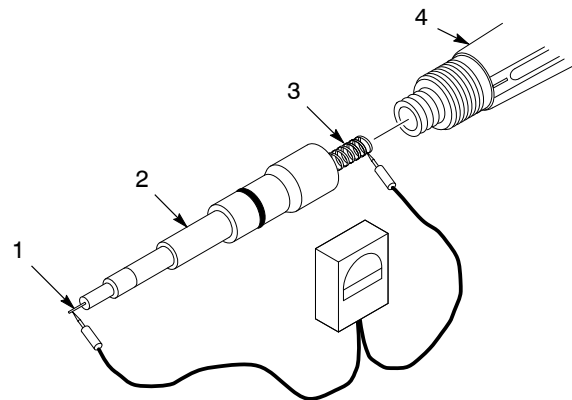

Figure 5 Multiplier/Resistor Assembly Resistance Check
2. See Figure 5. Unscrew the resistor probe (2) from the multiplier (4).